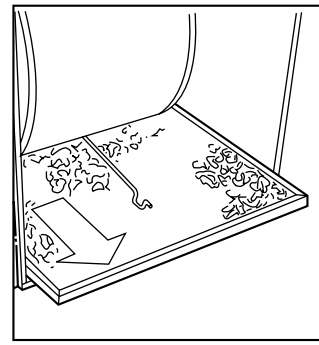

Fig. 27 - Slide Air Filter Out of Furnace
- (2.) Slide air filter out of furnace. (See Fig. 27.)